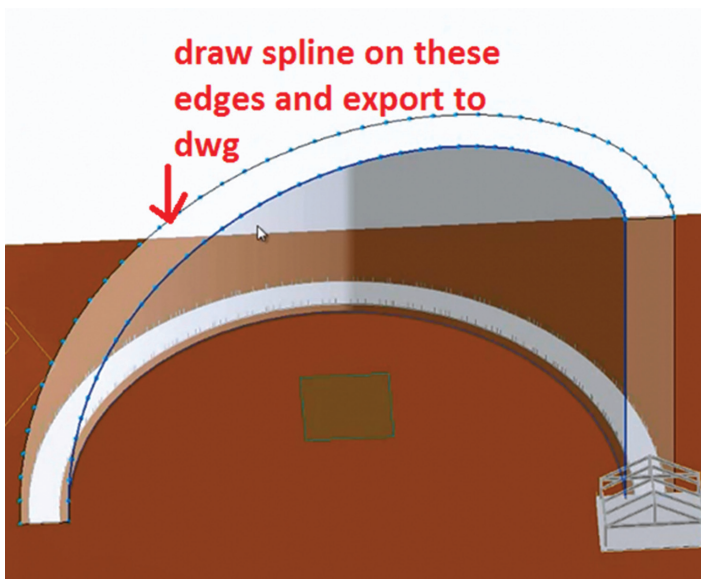

Figure 9: A helix in Revit
6. Simply grab the top end of the extruded half cylinder node and drag to desired height. Behold, a helix in Revit as shown in Figure 9.
7. Instead of dividing the edges, simply draw a curve along each edge using the Spline Thru Points command and the "follow surface" option turned on. Isolate the edges one at a time and export them to a dwg file as shown in Figure 9.